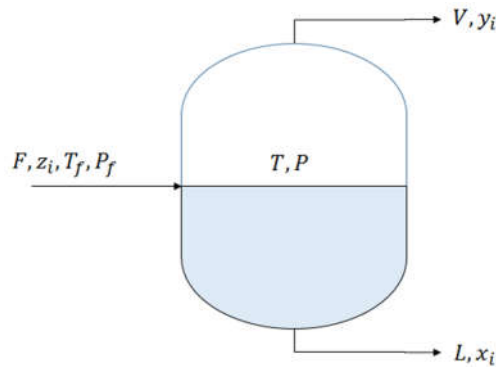

FIGURE P2.5 Illustration of ideal multi-component flash drum.
2.5 Figure P2.5 shows an ideal multi-component flash drum. The feed mixture of flow rate F consists of three isomers of xylene: o-xylene(1), m-xylene(2) and p-xylene(3). The feed contains mole fractions z_i of each component at temperature T_f and pressure P_f . In the flash drum, vapor-liquid equilibrium is achieved at T and P with a liquid flow rate L and vapor flow rate V . The vapor pressure of each component is assumed to be represented by Antoine equation given by